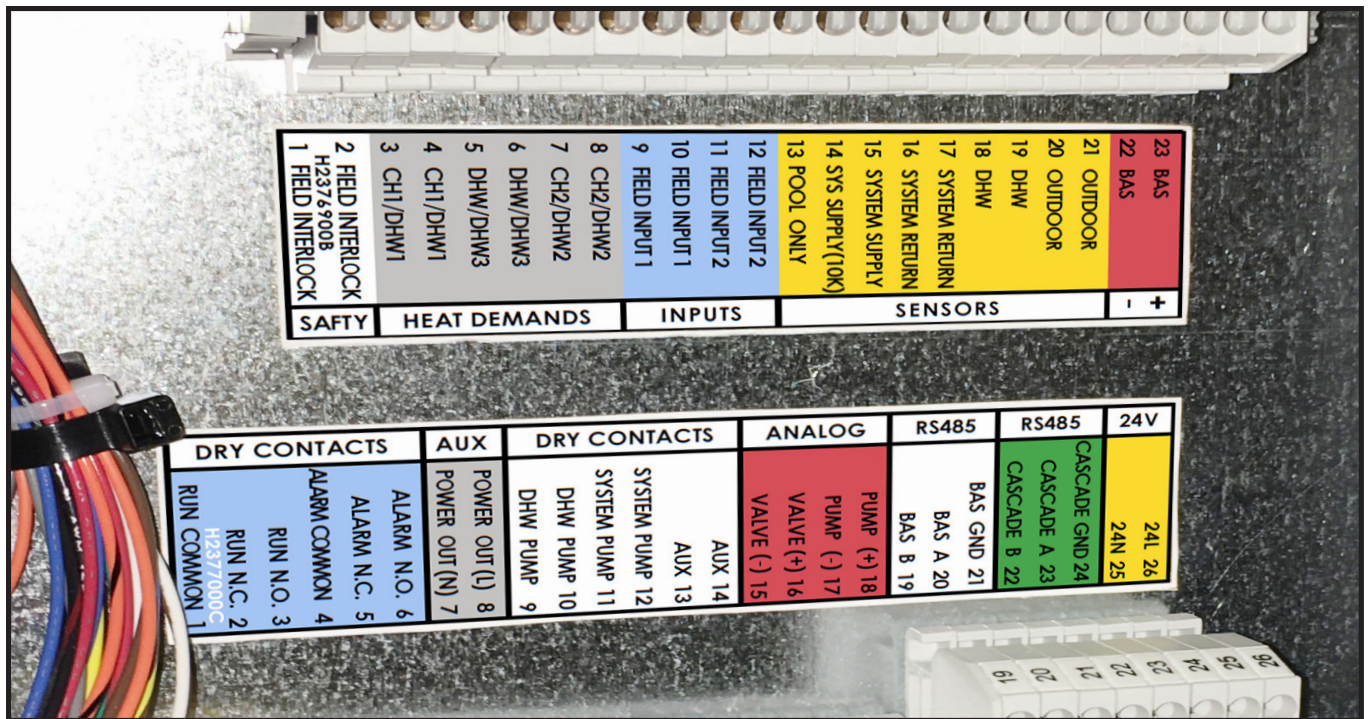
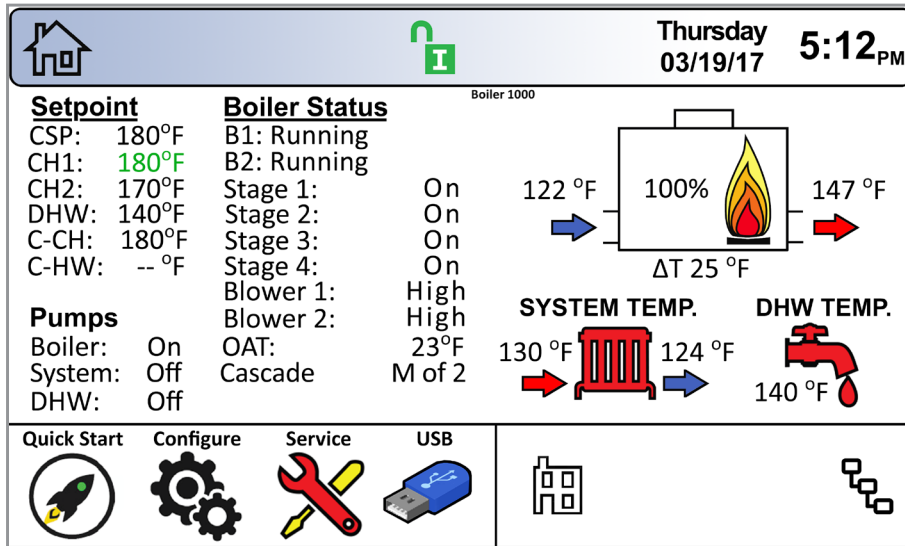

Figure 23. Input and Output Terminal Strips. Low Voltage Connections / Field Wiring
Figure 29. The Home Screen
Route all field wiring through the knockouts on the right side of the unit and connect to the terminal strips as labelled in Figure 23. Refer also to 5.E on page 38
**The System Supply:Sensor,** if used, is connected to terminals 14 and 15 of the input terminal strip. See Figure 23 on page 35. When connected, the controller automatically detects the presence of this sensor. If installed, the unit controls the staging of the burners to maintain the system supply temperature to the heat demand set point. The system supply temperature is shown on the home screen above the red system input arrow, see Figure 29 on page 42. This sensor is supplied loose with the unit and is installed in the piping or tank per the suggested piping diagrams. See Figure 6 on page 20.
**The System Return Sensor,** if used, is connected to terminals 16 and 17 of the input terminal strip. See Figure 23 on page 35. When connected, the controller automatically detects the presence of this sensor. There is no control logic associated with this sensor. When connected, this temperature is shown on the home screen above the blue system output arrow. This sensor is supplied loose with the unit and is installed in the piping or tank per the suggested piping diagrams. See Figure 6 on page 20.
adhere to the polarity designations shown on the label or wiring diagram. The input signal can be 0 – 10 VDC or 4 – 20 mA, and can be used to control the firing rate or set point, refer to 6.E.9 on page 62. The factory default setting is for a 0 – 10VDC signal. Configure for 4 – 20 mA by placing a jumper on CN20 on the control board, see Figure 23.